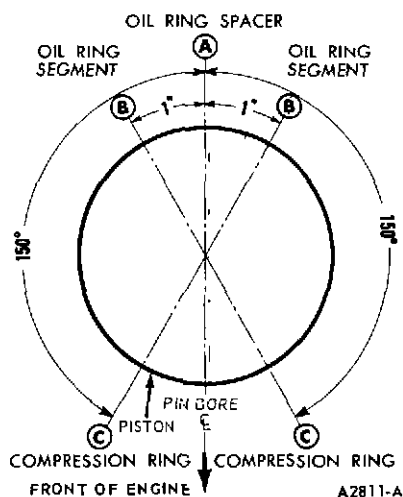

FIG. 55 Piston Ring Spacing
3. Make sure that ring gaps are properly spaced around circumference of piston (Figure 55).